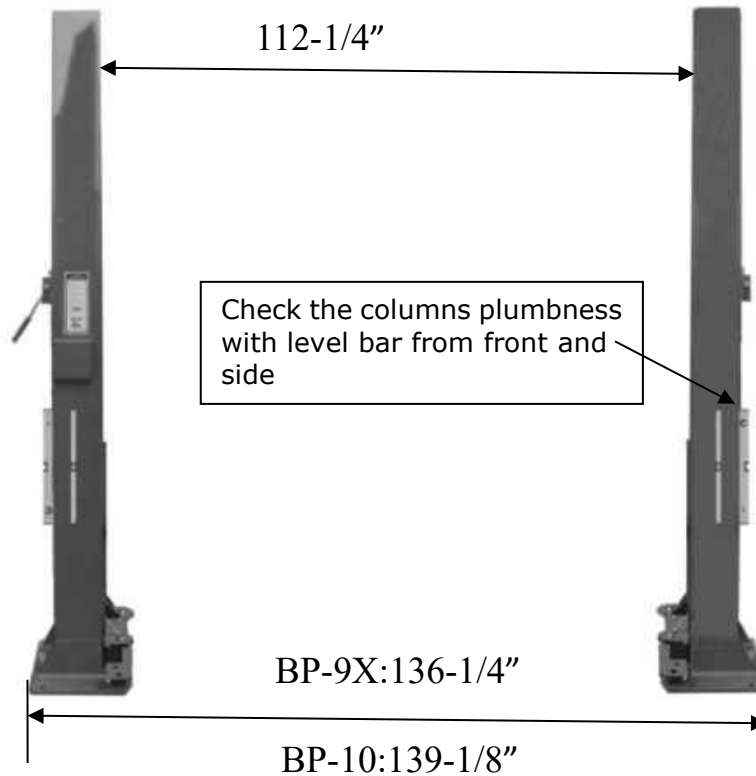

Fig.13
E. Position columns (See Fig. 13)